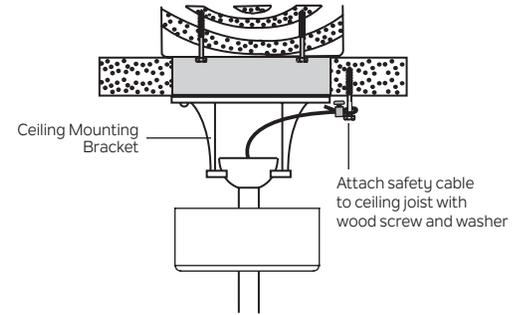

Fig. 11
Step 1. Attach the wood screw and washer to the ceiling joist next to the ceiling mounting bracket but do not tighten. **(Fig. 11)**